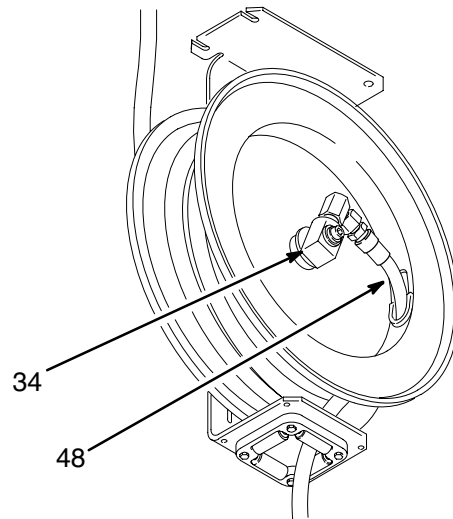

Fig. 15
5. Attach the new hose (48) to the hose reel swivel (34), and carefully remove the C-clamp. See Fig. 15.